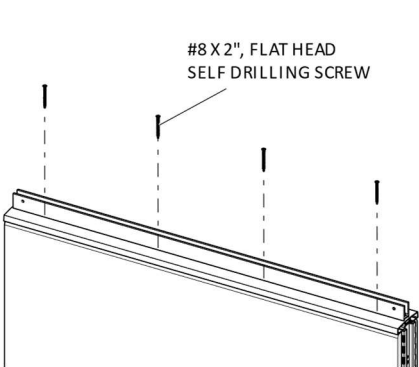

FIGURE 2
3. Securely fasten Frameless Glass/Acrylic Extrusion into the pre-drilled holes of top trim with #8 X 2", Flat Head Self Drilling Screws, (Figure 2).